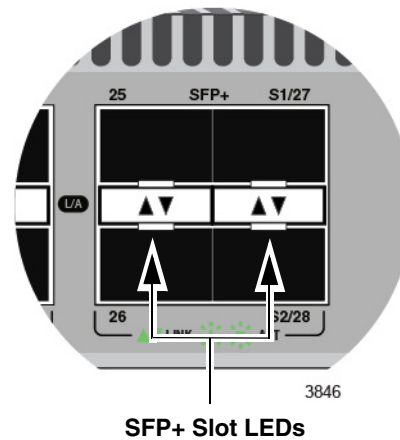

Figure 5. SFP+ Slot LEDs
**SFP+ Slot LEDs** The LEDs for the SFP+ slots are located between the slots, as shown in Figure 5. Each SFP+ slot has one LED. The left-hand LED is for the top slot and the right-hand LED is for the bottom slot.